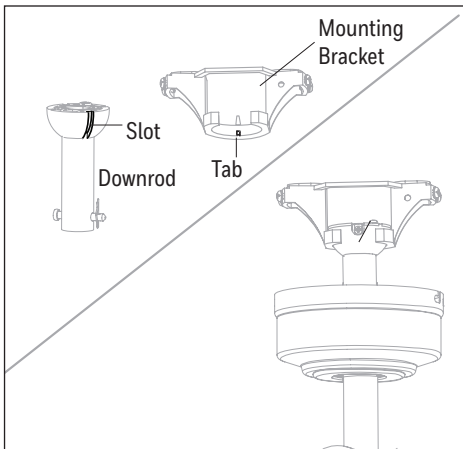

Figure 3.4
4. Install the ball end of the downrod into the opening of the mounting bracket. Rotate the downrod until the tab in the mounting bracket is seated in the slot in the downrod ball (Figure 3.4). **WARNING:** The fan and/or downrod should not rotate in the mounting bracket, if installed correctly. Failure to align the slot in the downrod ball with the tab on the mounting bracket may result in fan falling causing serious injury or death.